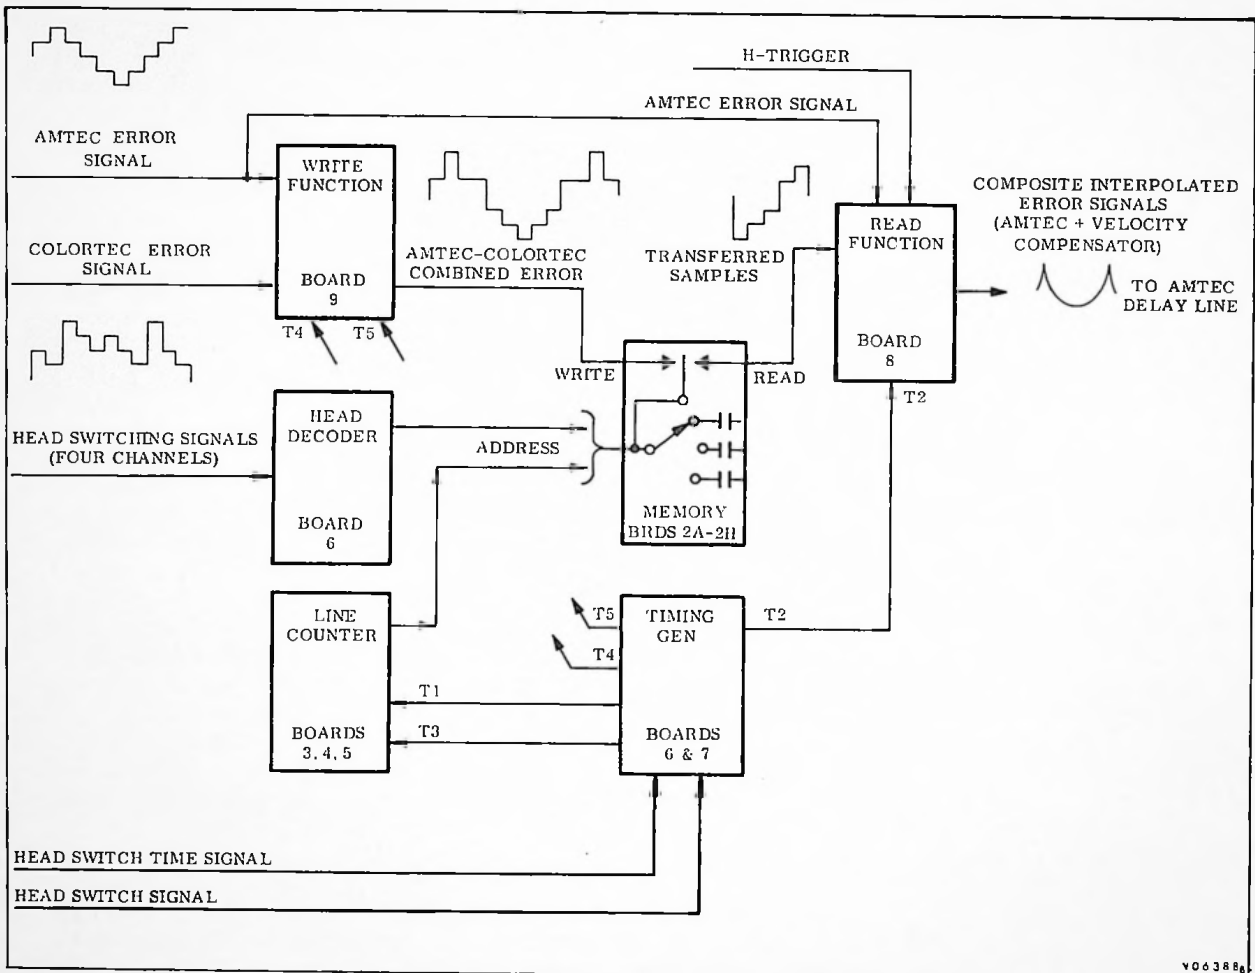

Figure 4.2-1. Velocity Compensator Functional Block Diagram
4.2-4 The compensation sequence begins with error signals from the Amtec and Colortec accessories being applied to the write circuitry of board 9. Here the signals are compared, algebraically added, and the resulting signal (sum) applied to the input of an amplifier. The amplifier output is applied to a memory-loading gate to await a T4 (write) pulse from the timing generator (board 7). See Figure 4.2-1.
The commutator-type switching shown symbolically in the MEMORY block of Figure 4.2-1 is for purposes of illustration only. Actual switching is done electronically by the head-decoder and the line-counter.